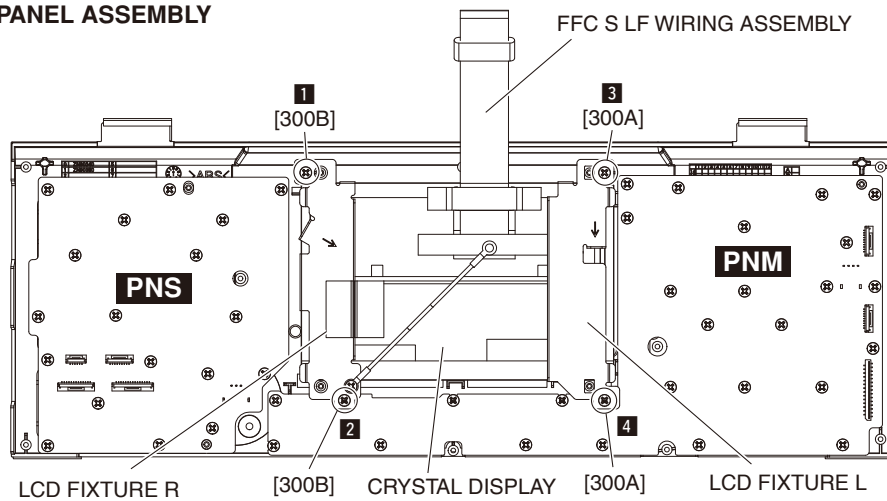

Fig. 7
- 6-3. Remove the two (2) screws marked [300A]. The LCD fixture L can then be removed. (Fig. 7)
- 6-4. Remove the two (2) screws marked [300B]. The LCD fixture R can then be removed. (Fig. 7)
- * **When installing the LCD fixture L and R, tighten screws in the order of 1 to 4 as shown in Fig. 7.**
- 6-6. Remove the FFC S LF wiring assembly. (Fig. 7)